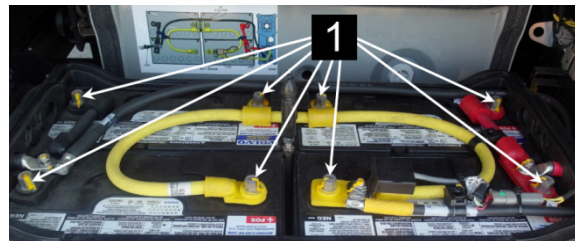

FIGURE 53: INSTALL THE BATTERY CABLE LUGS
5. Connect the battery cables. Tighten the cable terminal (item 1, FIGURE 53) nuts to the following torque: